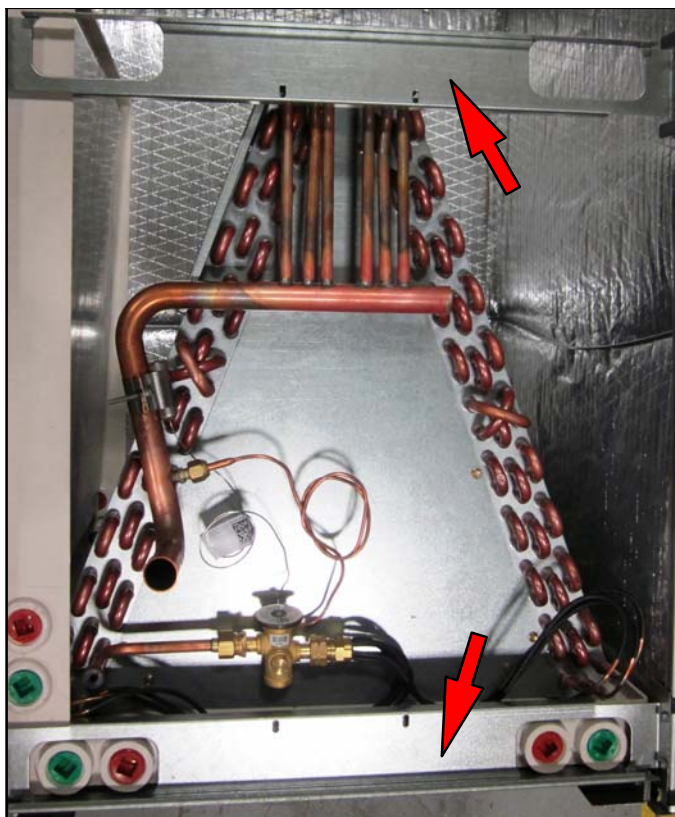

Figure 25. Remove Main Drain Pan Mounting Brackets
2. Remove brackets securing pans to unit. See figure 25.